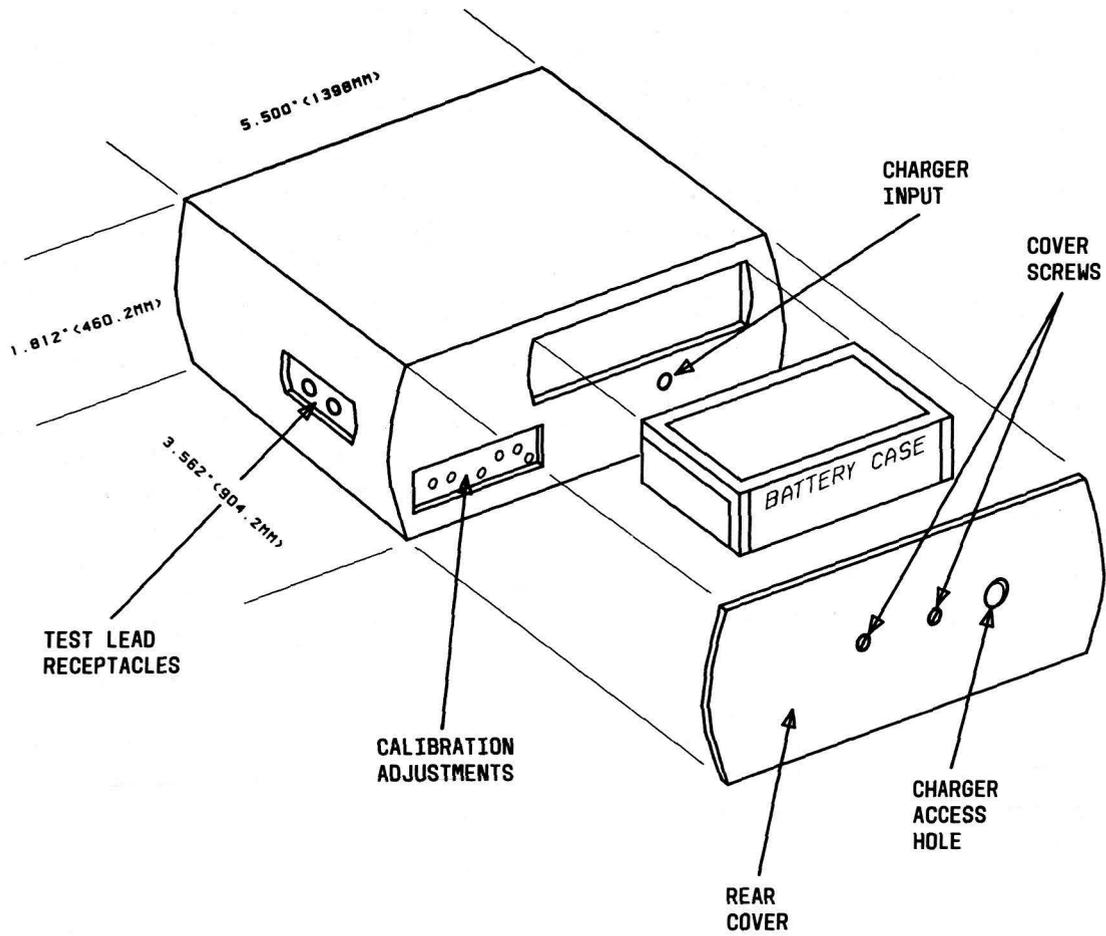

Fig. 5—KS-20599, L4, Multimeter With Rear Panel Removed
4.03 The KS-20599, L4, multimeter is factory calibrated and burned-in prior to shipment. The L4 is designed to remain in calibration for a minimum of 6 months before recalibration is required. When calibrations are made, only the rear panel should be removed (see Fig. 5). **The meter itself should not be opened.**
4.07 To calibrate the meter, it is first necessary to remove the rear panel shown in Fig. 5. Using a 3-inch C screwdriver, remove the two panel mounting screws. Then, insert the screwdriver in one of the screw holes and lift out.
- (1) Turn the function switch to off and remove the line cord
- (2) Using a 3-inch C screwdriver, remove the rear panel of the meter. (See Fig. 5)
- (3) Snap out the old battery module and replace with a new one